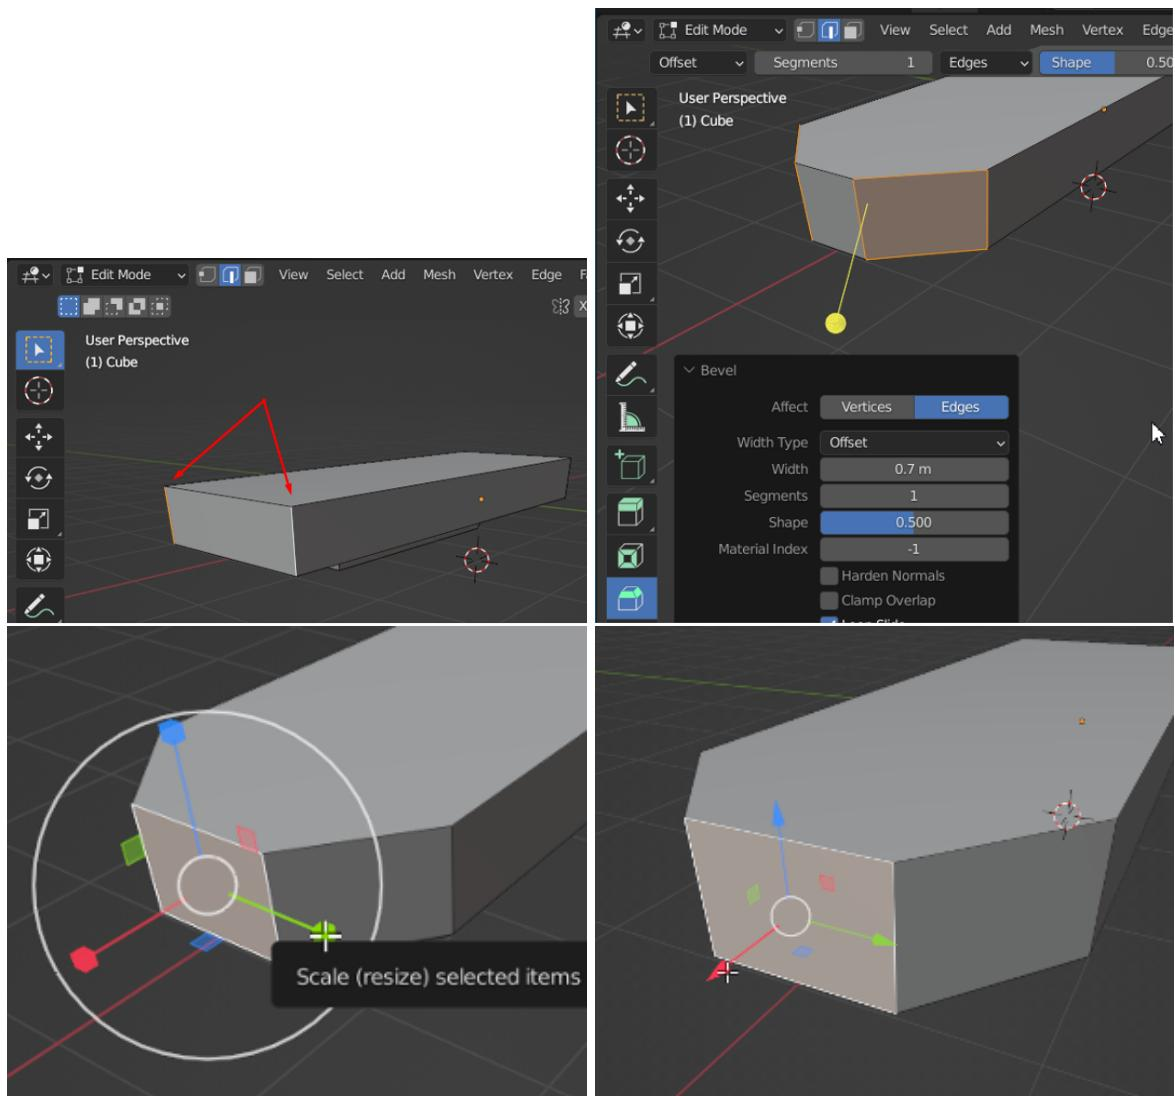

Figure 1.24: Modeling of the loco platform (bevel edge tool).
- (d) Shear the front platform on the two vertical edges using *Bevel edge* and adjust the shape by moving or scaling the front polygon (see Fig.1.24).